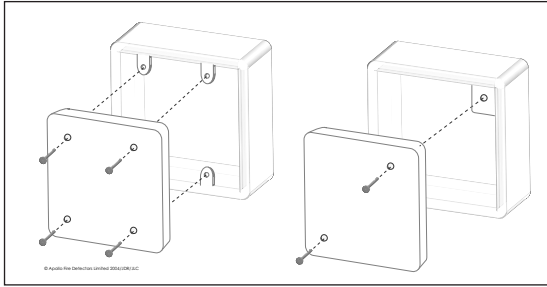

Fig 1. Mounting the XP95A Sounder Control Module
2. Drill holes in the face plate corresponding to the holes on the mounting box selected (Fig 1).